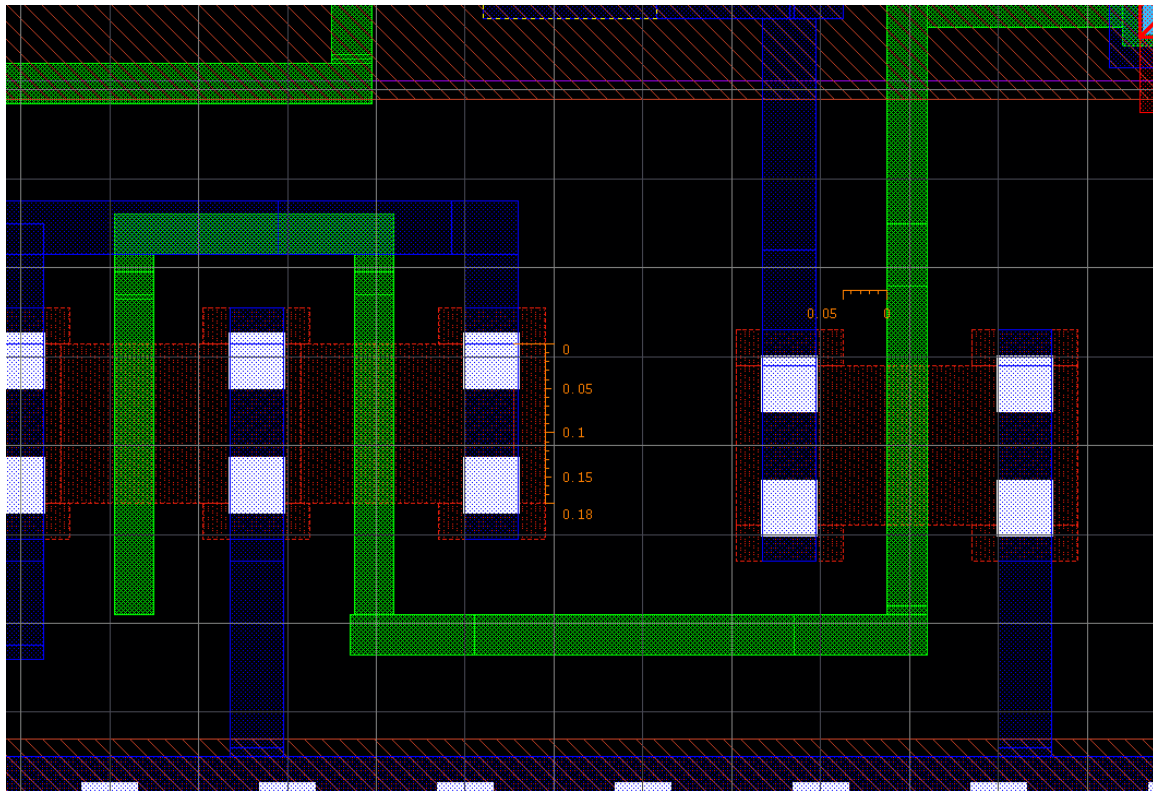

Figure 8 Diffusion Region Extensions (Hats) for contacts
14. Transistors must be well formed with appropriate contacts as shown in Figure 8.